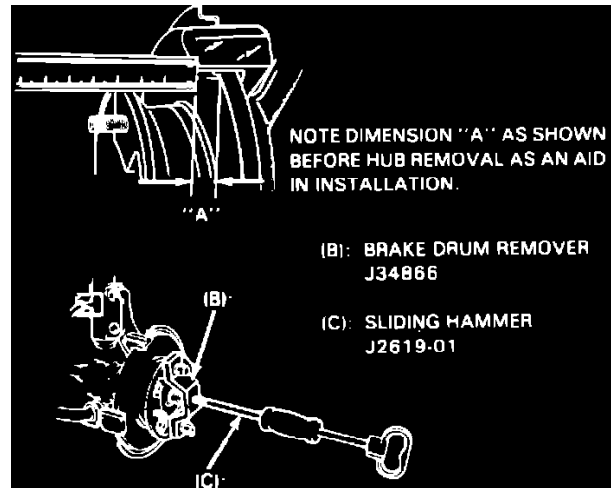

Fig. 5 Checking dimension "A" to assure proper installation of hub
4. Refer to **Fig. 5**, and measure dimension A for assembly reference. Pull hub out of knuckle.